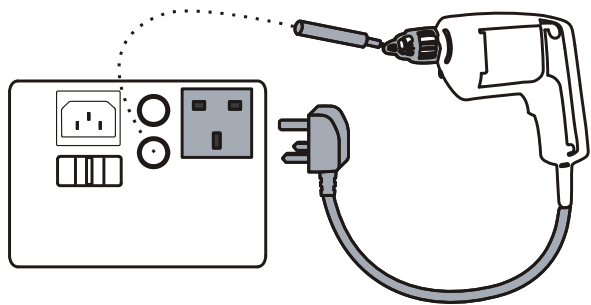

Figure 6. Substitute Leakage Current Connections
-  Connect the appliance and the probe as indicated on the tester, see also Figure 6.